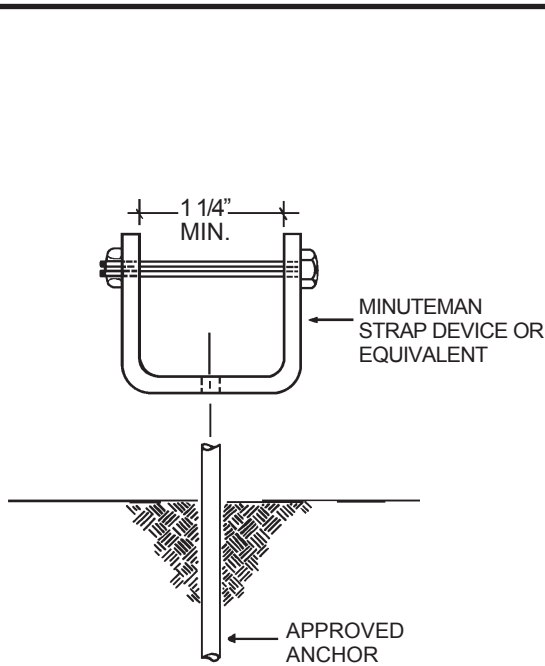

FIG. 6
2. Strap end connection devices. (See Fig. 6)